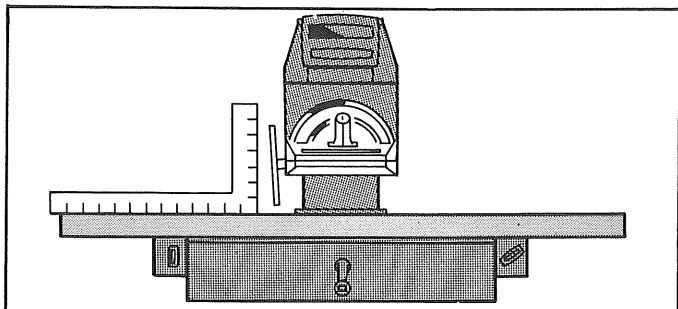

FIG. 29
Position the motor as shown (Fig. 29) until the 0 degree detent snaps into place. Snap can be adjusted by set screw on left hand side of bevel scale. Do not over-tighten and compress spring solid in detent snap.
2. Place a carpenter's square on table top against the blade as shown. Fig. 29. Square must not rest against a tooth of the blade. If blade is not square, adjust as follows: